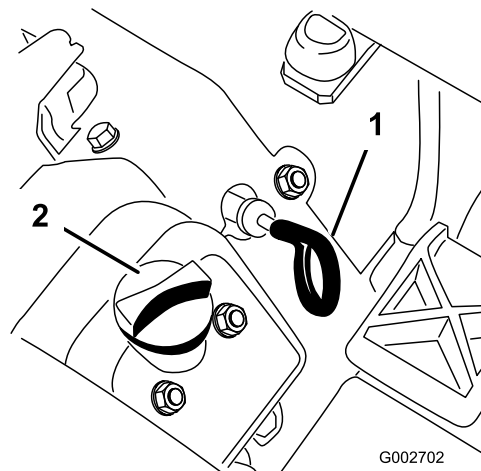

Figure 14
3. Pull out the dipstick (Figure 14) and wipe it with a clean rag.